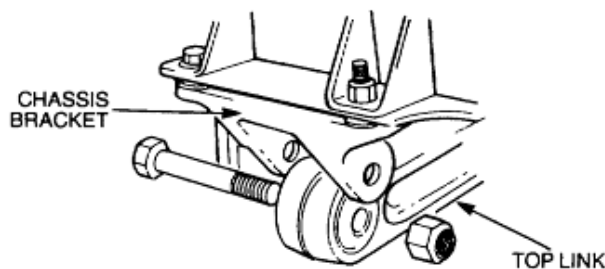

Figure 133 Top Link Removal
- d. Remove the locknuts and bolts securing the top link to the chassis brackets (Figure 133). Discard the locknuts.